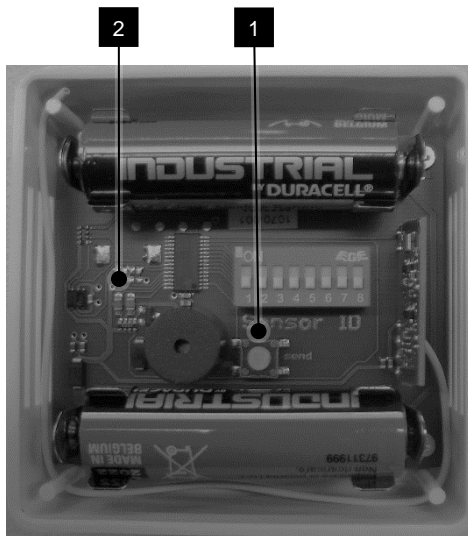

Fig. 9: Checking the functionality
3. ➔ Check the functionality of the remote sensor system. To do this, press the black button (Fig. 9/1).
- ⇒ If the LED (Fig. 9/2) lights up briefly, the remote sensor system is ready for operation. If the remote sensor system emits a short signal tone at regular intervals during operation, replace the batteries.